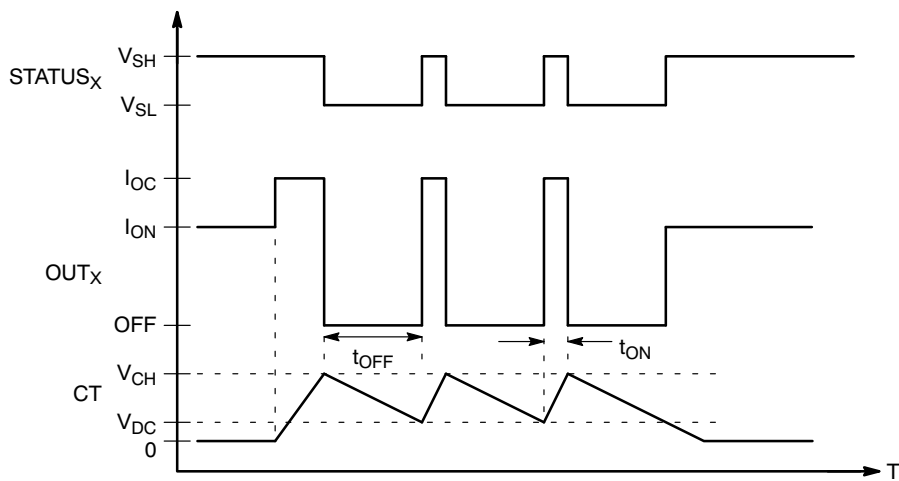

Figure 5. Overcurrent, Status and Duty Cycle Timing
9. During overcurrent, the STATUS outputs will be modulated at the overcurrent duty cycle rate. See Figure 5.
Overcurrent detection circuitry is provided in both the low-side and high-side drivers of each half-bridge output. When activated, the overcurrent detectors trigger an internal timer which causes both half-bridge drivers in the same channel to be modulated at 4% (Typ.) duty cycle. The timer also activates the channel's STATUS output, causing it to be similarly modulated (see Figure 5.) Upon removal of the fault condition, the channel automatically resumes operation in its previously programmed mode and its STATUS output returns to a no-fault state.
current I_{DCH}. Upon detection of overcurrent, charging current I_{CHG} is switched on and the C_T capacitor begins charging from zero towards the timer's upper threshold (V_{DH}.) When the capacitor voltage crosses V_{DH} the faulted channel's outputs are switched off and the channel's STATUS output is switched from V_{SH} to V_{SL} (see Figure 5.) The charging current is switched off, and the capacitor voltage decreases toward the timer's lower (V_{DL}) threshold. Upon crossing the lower threshold, the channel's outputs are switched on and the channel's STATUS output returns to its V_{SH} voltage. This behavior continues until the fault condition is resolved. If the fault condition is resolved before V_{DH} is reached, the timer is reset and no modulation of the previously faulted channel's half-bridge or STATUS outputs occurs.